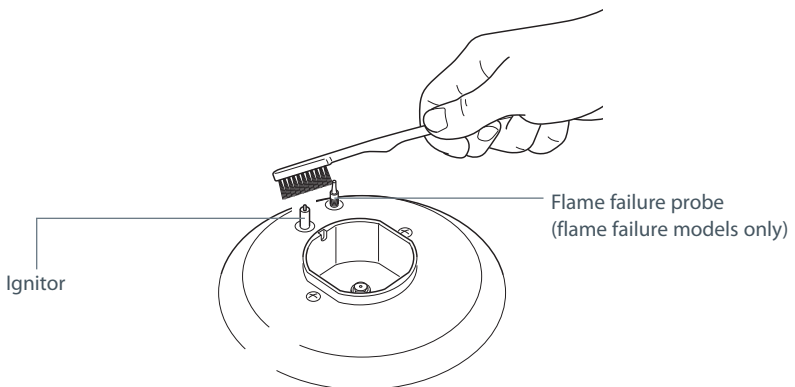

Fig.15 Cleaning the ignitor and probe
Some cooktop models have a flame failure safety device. These models have a flame failure probe as well as the ignitor (see Fig 15).
- The ignitors are sparking. If the ignitors are not sparking, they may be dirty or wet. Clean them with a toothbrush and methylated spirits, as shown in Fig. 15.
- Both the ignitor and probe must be very carefully cleaned using a toothbrush and methylated spirits (Fig.15).